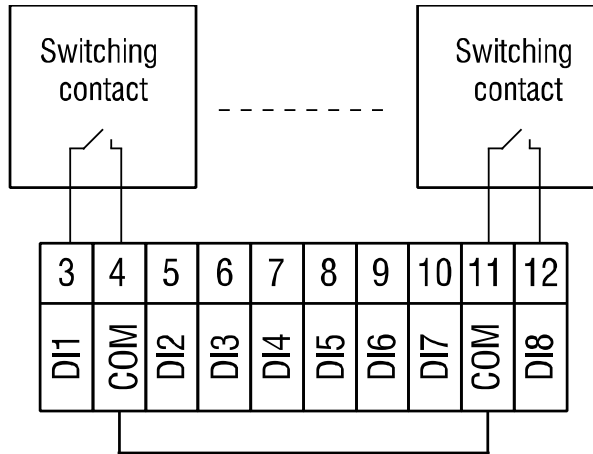

Fig. 4.2 Connection of switch contacts
- Connection variants for various types of signals and connection of output relays are given in Fig. 4.2 – 4.4.